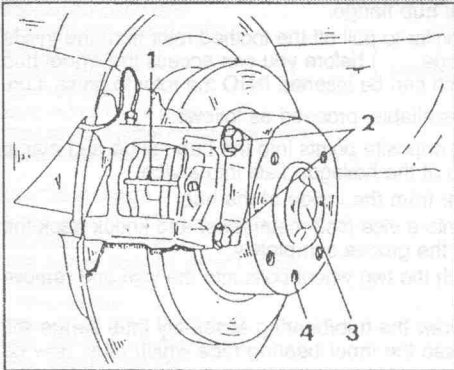

Fig. 7.9. — Details for the removal and installation of a rear wheel hub.
- Remove the brake pads as described in the "Brakes" section and refit the bolt (1) in Fig. 7.9. Remove the bolts (2) securing the brake caliper to the rear axle. Also remove the screws (4) securing the brake disc to the hub and remove the disc, if necessary by tapping it with a soft-faced mallet.
The installation is a reversal of the removal procedure. Tighten the five bolts to 3.2 kgm (22 ft.lb.). The two caliper mounting bolts (2, Fig. 7.9) are tightened to 4.2 kgm (30 ft.lb.). Lubricate the bolt heads and threads before installation.